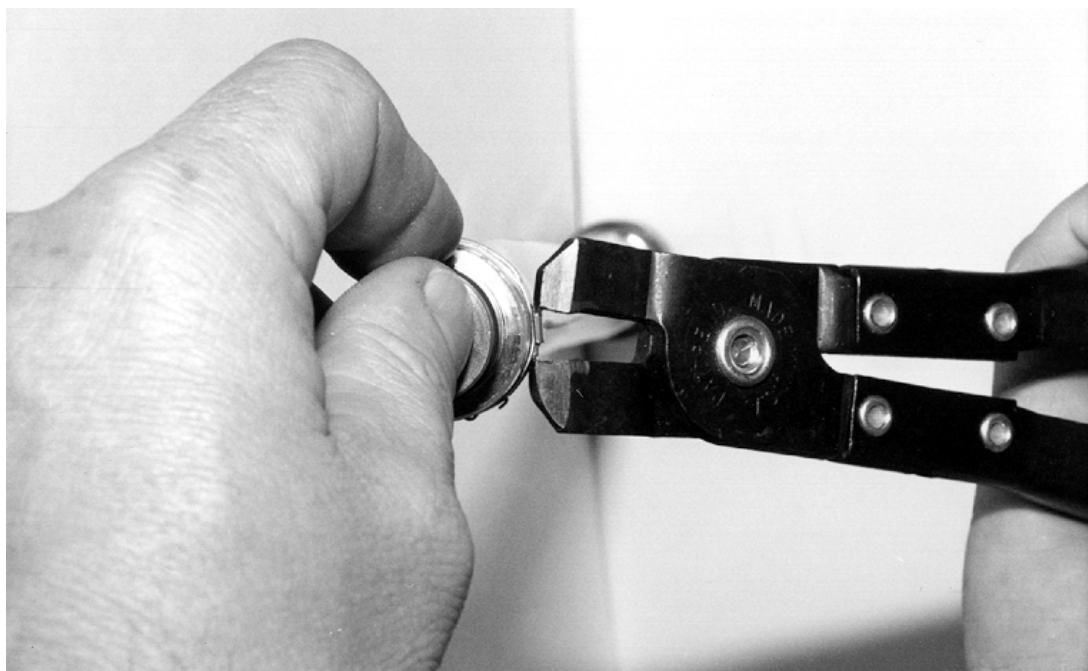

Figure 4-1 Removing the Retaining Ring With the Oetiker Tool
12. Use the Oetiker tool to release the two stainless steel straps that hold the bladder in place at either end of the pump. This is done by locating a point on the strap where the inner and outer sections of the strap overlap, about 1¼ inches from end of the outer section of the strap. See Figure 4-1.